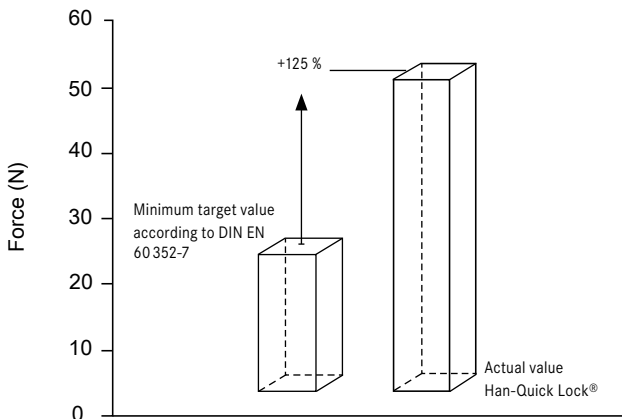

Figure VII-4: Wire pull-out forces with cable cross-section  $0.5 \text{ mm}^2$
- Wire retention force: The required minimum values as specified in DIN EN 60 352-7 have been greatly exceeded (refer to Figure VII-4).